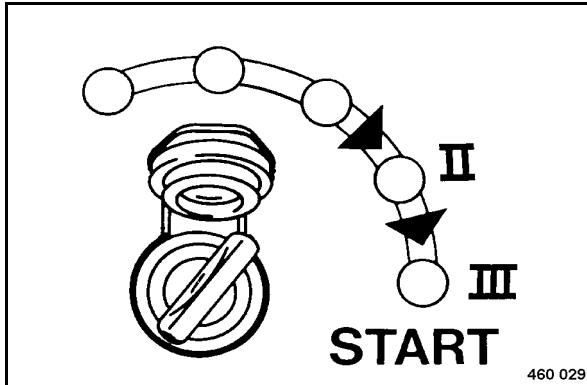

Fig. 52
- Turn the ignition key (Fig. 52) through position "II" to position "III", the starter will crank the engine.